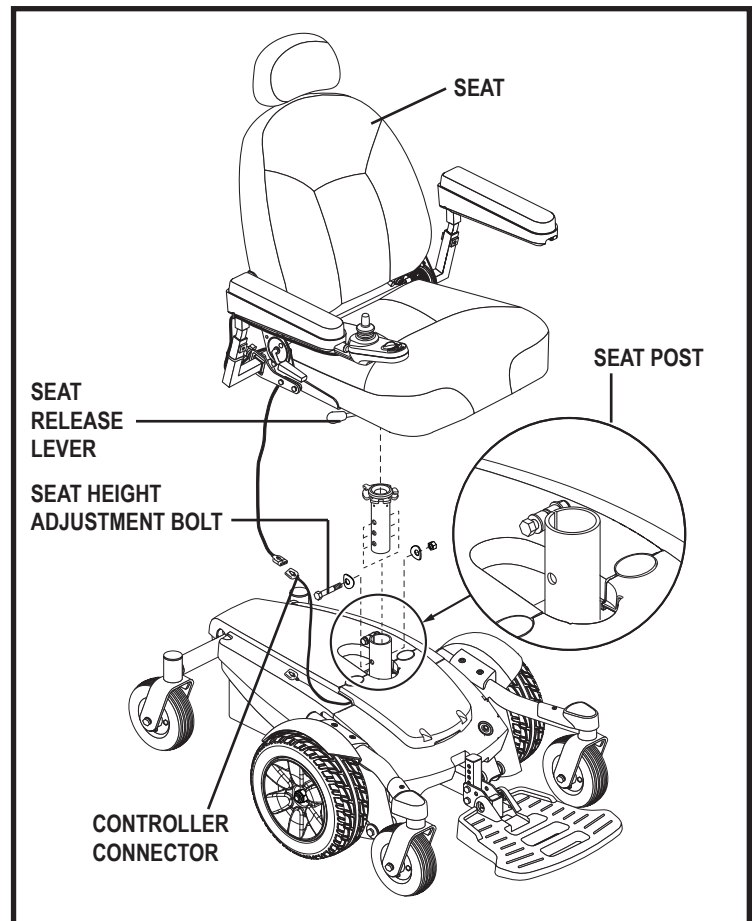

Figure 7. Seat Height Adjustment
3. Disconnect the controller connector from the power base. See figure 7.
4. Disengage the seat release lever. See figure 7.
6. Loosen the hardware at the rear of the seat post. See figure 7.
7. Remove the seat height adjustment bolt, washers, and nut from the seat post. See figure 7.
If your power chair is equipped with a manual recline seatback, you can adjust the seatback angle with the seatback release lever. The lever is located on the right side of the seat base. See figure 7.